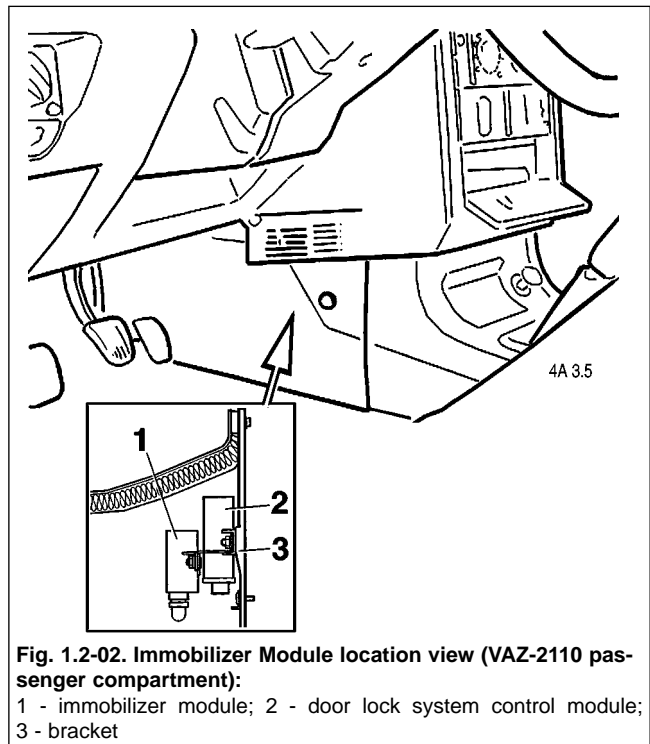

Fig. 1.2-02. Immobilizer Module location view (VAZ-2110 passenger compartment):
01), key reader (immobilizer status indicator) (2), two black key fobs (3), one red key fob and the relevant part of the ECM firmware. Operational mode and VTD system status are indicated by the LED in the instrument panel and the beeper inside the immobilizer module. The immobilizer module and the key reader (status indicator) location is shown in Fig. 1.2-02, 1.2-03.